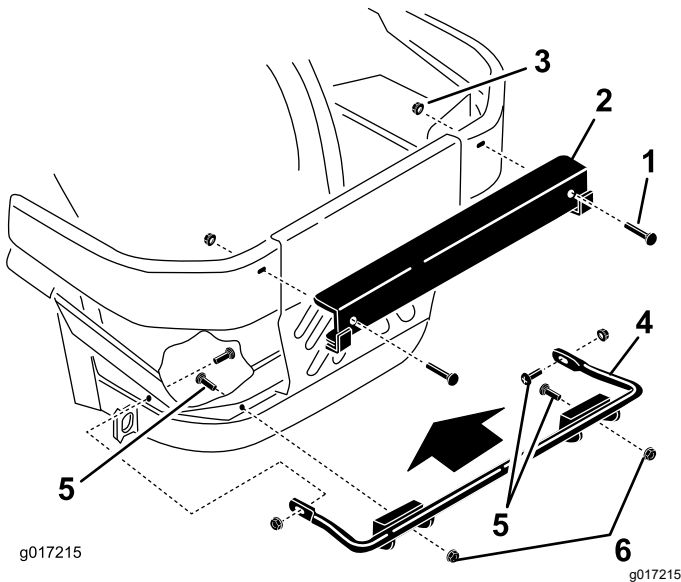

Figure 5
1. Install the lower mounting bracket to the machine frame with 4 carriage bolts (3/8 x 1-1/4 inches) and 4 flange nuts (large flange-3/8 inch) as shown in Figure 5.
2. Install the upper mounting bracket to the left and right bumpers with 2 carriage bolts (1/2 x 2-1/2 inches) and 2 flange nuts (1/2 inch) as shown in Figure 5.